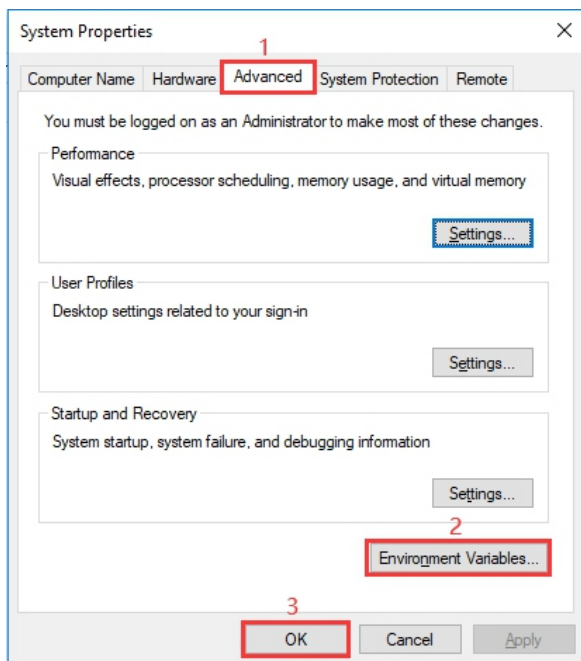
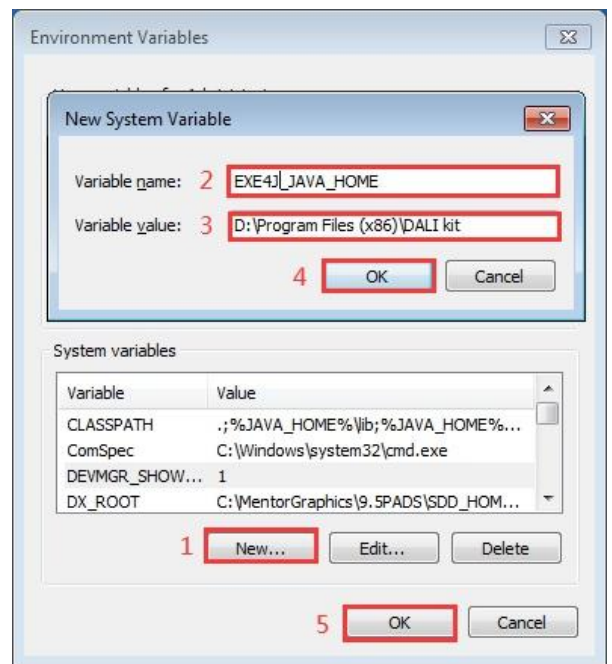

Figure 7 System Properties Window
Figure 8 Environment Variables Setting Window
Step 1: right click the computer icon  on the desktop, select “Properties”, then “Advanced system settings” to open the system properties setting window as shown in **Figure 7**:
Step 2: switch to “Advanced” tab, then click button “Environment Variables” to open the environment variables setting window as shown in **Figure 8**:
Step 3: Click “New” button, the parameter setting window will pop-up, Variable name must be set as “EXE4J_JAVA_HOME”, Variable value should be set as the installation path of the software (the parameter in **Figure 8** is just for your reference), then click “OK” one by one to go back to the window in **Figure 7**, then click “OK” to save the environment variables setting.